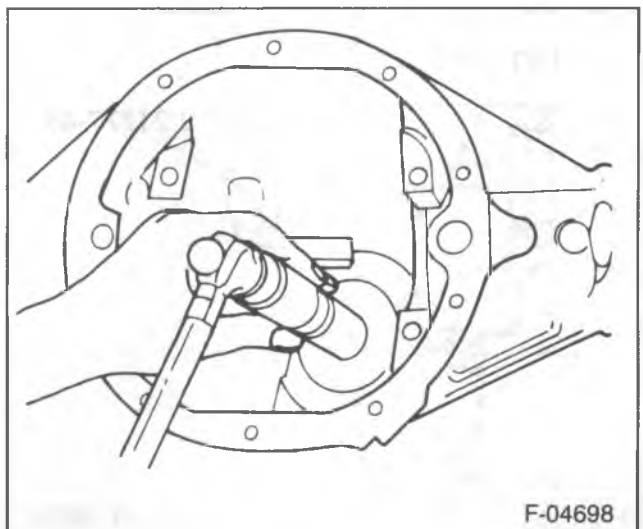

Figure 10—Installing the Rear Pinion Bearing Cup
2. Rear pinion bearing cup (5) using J 8608 and J 8092 (figure 10).